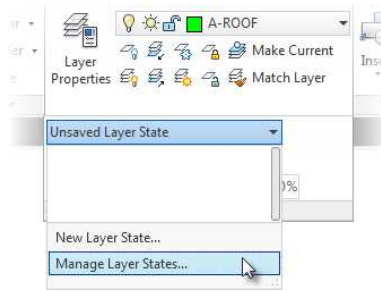

FIGURE 6.56: Accessing the Layer States Manager
4. On the Layers panel, click the Layer States drop-down list, which currently shows Unsaved Layer State, and click Manage Layer States, as shown in Figure 6.56.